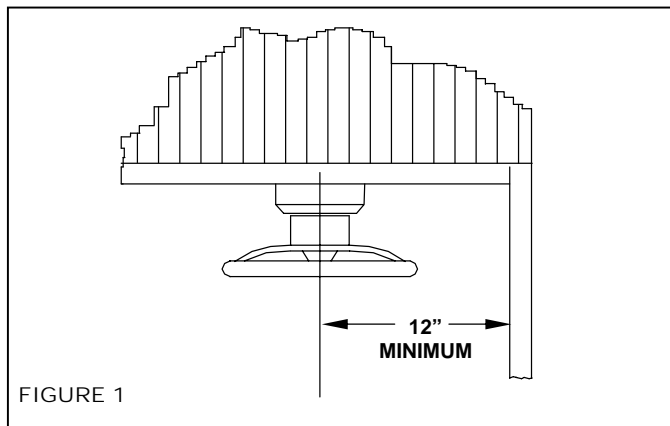

FIGURE 1
- (1) Engine Connection Kit (see catalog)
- Steering cables must be routed to the starboard side of the boat. (SH 5023 and 5075 can be routed to port side but starboard side is preferred in order to balance engine torque). A minimum horizontal clearance of 12" is required from the gunwale to the center of the helm steering shaft (see Figure 1). This dimension controls the minimum acceptable bend radius of 8". A smaller bend radius will reduce steering performance and may result in premature cable failure.